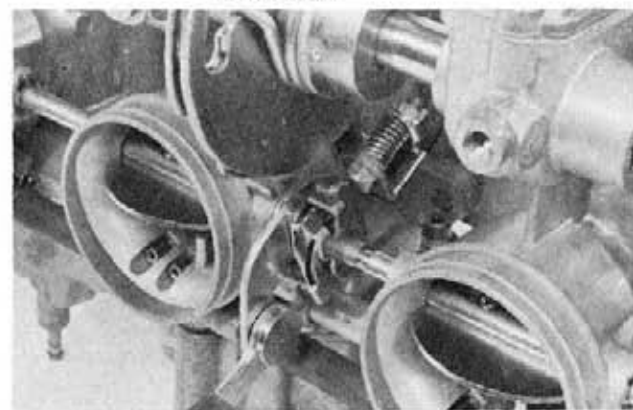

Fig. K7-13
3. Install the choke shaft levers and springs properly as shown in Fig. K7-13.